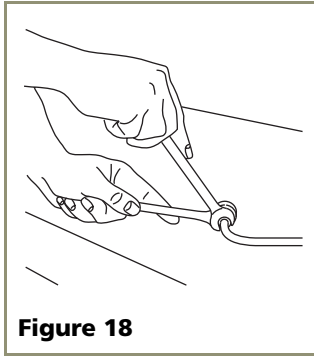

Figure 18
2. Locate the compression fitting and ferrule packed with the unit. Slide the compression fitting and ferrule over the 1/4-inch OD water supply line. Do not use thread sealing compound or tape. Using two wrenches, tighten the compression fitting on the supply line (see **Figure 18**).